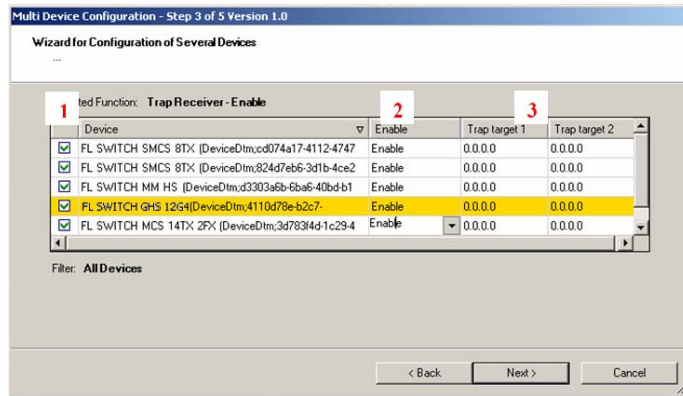

Figure 4-18 Trap receiver selection in the MDC wizard
- Step 3: A list is displayed of all the devices that support the trap receiver function (see Figure 4-18).
- In the table, devices that are not to be modified can be deactivated (uncheck device) (see Figure 4-18/item 1).
- In the table, devices can be enabled or disabled simultaneously (see Figure 4-18/item 2).
- Trap targets are specified for the first and/or second address (see Figure 4-18/item 3).